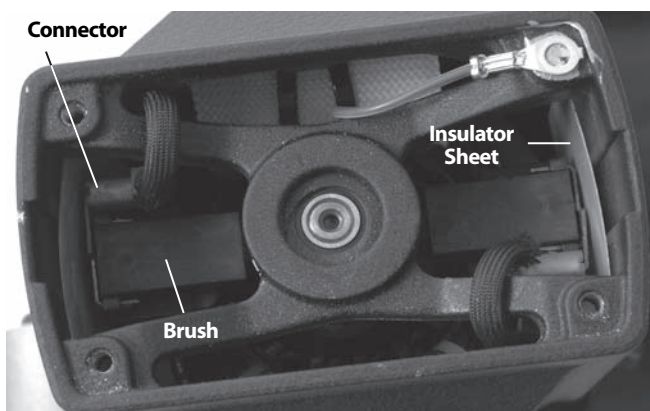

Figure 12 – Brush Placement - Motor Cover Removed
2. Using a pair of pliers, pull the motor brushes straight out. Detach the connector. (See Figure 12.)